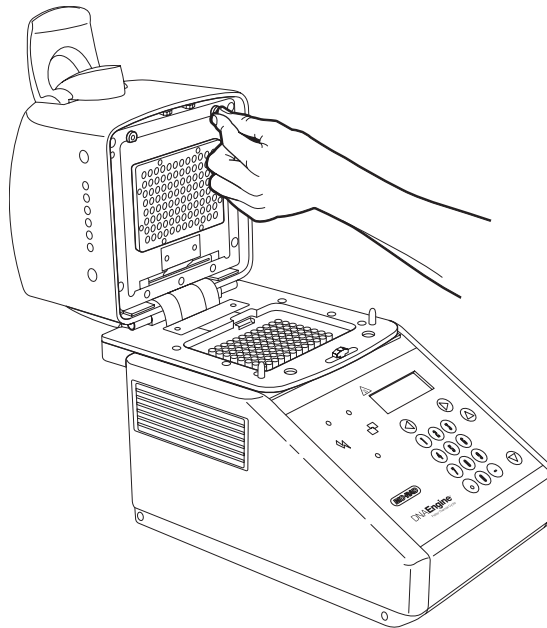

Figure 3-5. Accessing the photonics shuttle's stage
1. On the inner face of the Chromo4 lid is a metal heater plate with an 8 x 12 array of holes. The heater plate is held in place by two D-shaped latches along the anterior edge. Turn these latches to access the photonics -shuttle stage axes (see Figure 3-5).